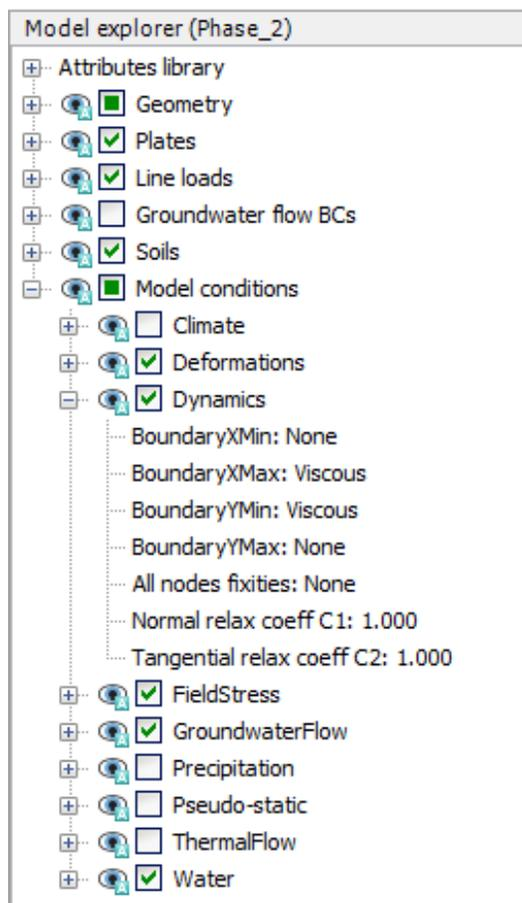

Figure 196: Boundary conditions for **dynamics calculations**
- Special boundary conditions have to be defined to account for the fact that in reality the soil is a semi-infinite medium. Without these special boundary conditions the waves would be reflected on the model boundaries, causing perturbations. To avoid these spurious reflections, viscous boundaries are specified at X_{max} and Y_{min} . The dynamic boundaries can be specified in the **Model explorer** > **Model conditions** > **Dynamics** subtree as shown in Figure 196 (on page 221).